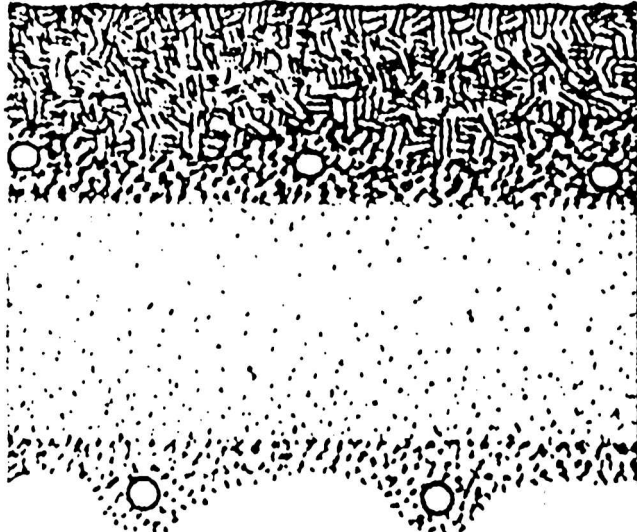

Fig. 24-3 Sand filter. Note the two layers of pipes.
- A *subsurface sand filter*, which consists of distribution pipes surrounded by graded gravel in an intermediate layer of clean coarse sand, and a system of underdrains to carry off the filtered effluent (Fig. 24-3). (Sand filters are used only where other systems are not feasible.)